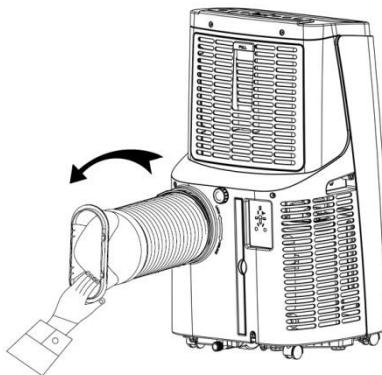

Fig. 2
1.1 Install the heat pipe assembly (as shown in Fig.2)
- 2) insert the heat pipe assembly (the end of the exhaust joint) into the back panel vent slot (push to the left) and complete the assembly (as shown in Fig. 2).